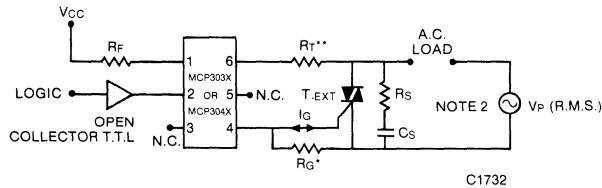

Figure 8 For Load Current IL > 50mA RMS – Interface Via External Triac (TEXT)
Typical Snubber Values — Fig. 8. Circuit Driving Inductive Load:
1. MCP304X and TEXT VDRM ≥ 400 V recommended for 120 V Inductive Loads - Fig. 8